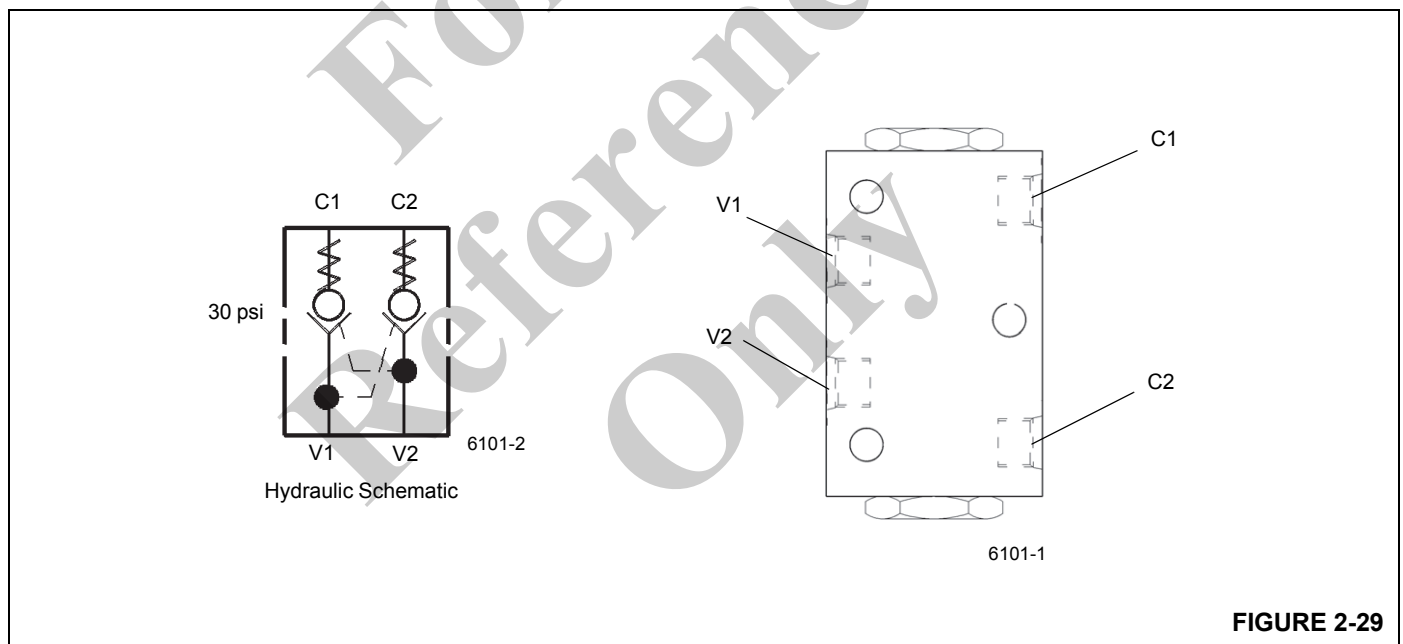

FIGURE 2-29
The double pilot operated (PO) check valve (Figure 2-29) is located on the outside of the left superstructure side plate behind the cab. It is used to hold or lock the cab tilt cylinder in place. Oil flow is directed from the “V” ports to the “C” ports, while blocking flow in the opposite direction. Flow is reversed from “C” to “V” when pressure pilot oil is applied to the opposite side “V” port.